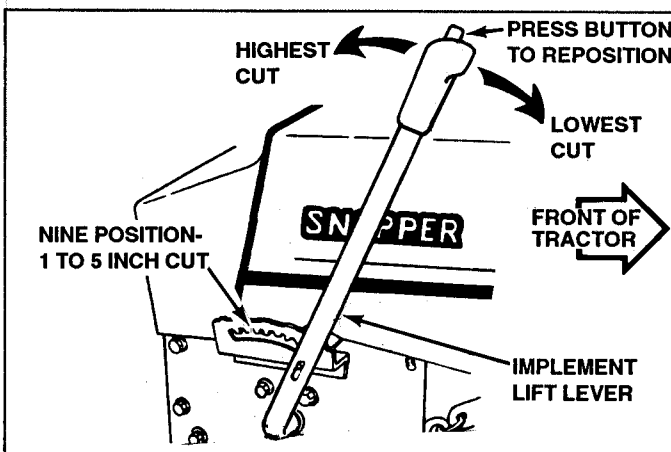

Figure 10: IMPLEMENT LIFT LEVER
The cutting height can be changed to any one of nine positions by raising or lowering the cutting deck attachment with the implement lift lever as shown in Figure 10.
5. Place implement lift lever in lowest position (full forward), raise deck and secure to rear lift arm bracket with washer and small hairpin. (FIG. 10)